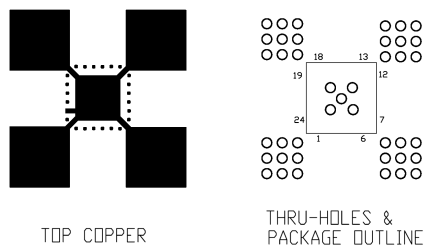

Figure 4. Printed Circuit Board Layout for Maximum Thermal Performance
- ESD testing is performed in accordance with the Human Body Model (HBM) ($C_{ZAP} = 100$ pF, $R_{ZAP} = 1500$ Ω), the Machine Model (MM) ($C_{ZAP} = 200$ pF, $R_{ZAP} = 0$ Ω), and the Charge Device Model (CDM), Robotic ($C_{ZAP} = 4.0$ pF).
- With PCB Layout comparable top copper and vias as shown in Figure 4, and bottom thermal ground plane of > 9 cm².
- With specified PCB Layout shown in Figure 4 under forced convection airflow condition.